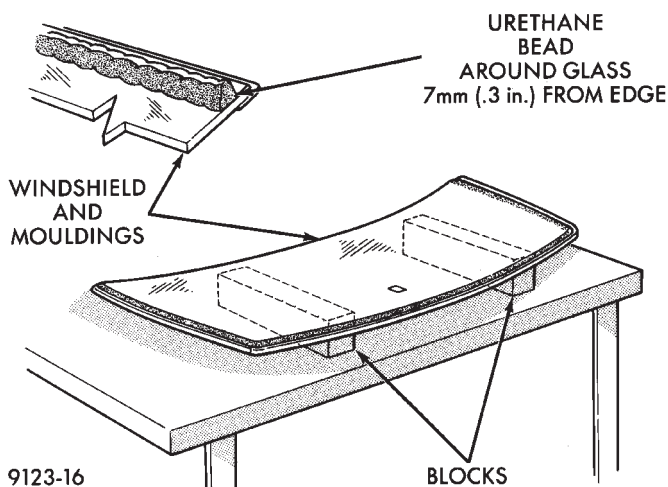

Fig. 4 Work Surface Set up and Molding Installation
(2) Position the windshield inside up on a suitable work surface with two padded, wood 10 cm by 10 cm by 50 cm (4 in. by 4 in. by 20 in.) blocks, placed parallel 75 cm (2.5 ft.) apart (Fig. 4).